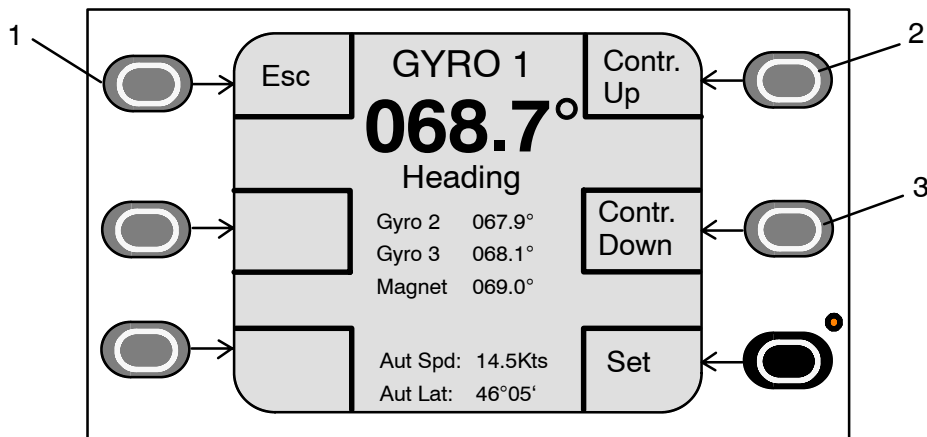

Figure 9: Adjusting the contrast
Once the display has changed (see Figure 9) you can adjust the contrast using the “Contr. Up” (2) and “Contr. Down” (3) keys.